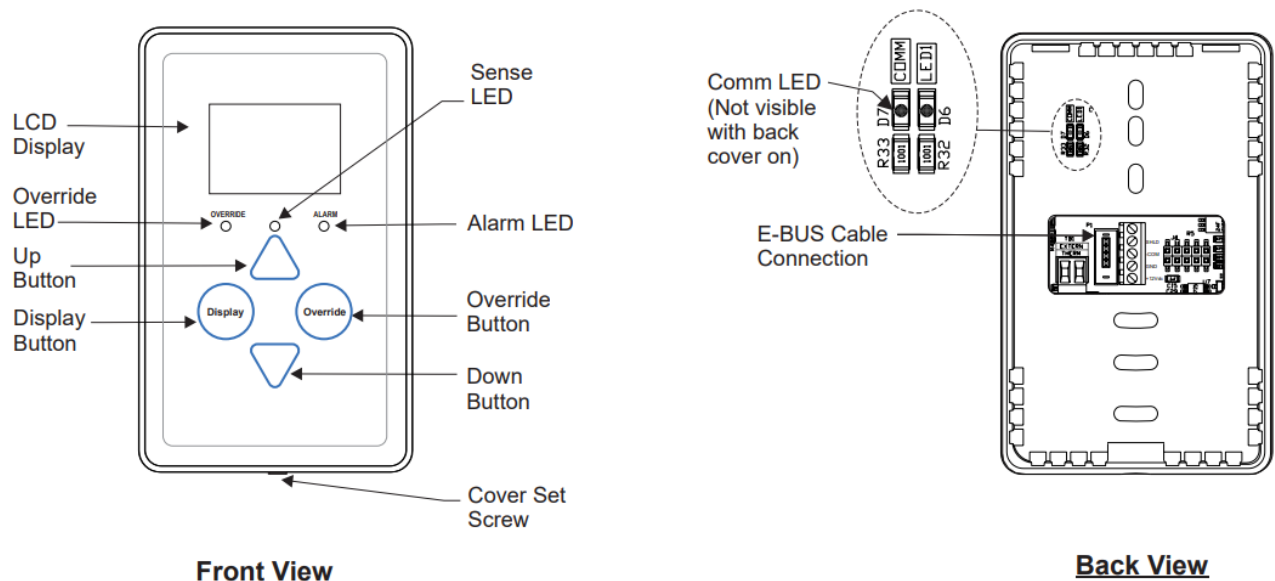

Figure 4: E-BUS Digital Display Components
- The display has four buttons: <Display>, <Override>, <Up>, and <Down>. Certain functions can be accessed by touching the area below the <Display> and <Override> buttons. The display has three user-visible LEDs, one to indicate an override, one to indicate an alarm, and one to indicate a button has been pressed. See Figure 4, this page, for LED and button descriptions.